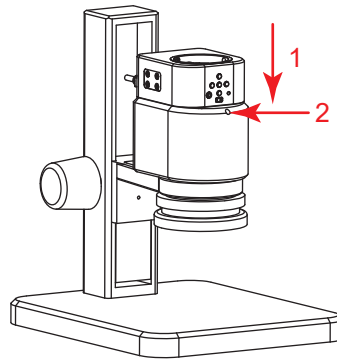

Figure 2
- 1) Snap the HDMI embedded camera to the objective end of the microscope, oriented as in Figure 2;